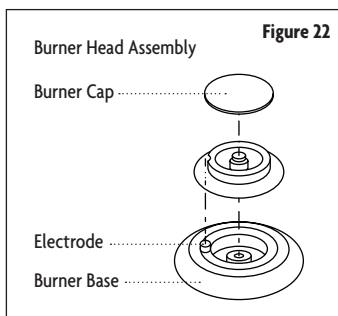

Figure 22
- Place a burner cap on each burner head, matching the cap size to the head size. (Refer to Figure 22.)